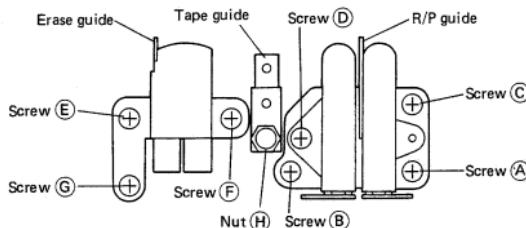

Fig. 4-2
**CAUTION 1:** Upon replacement of the record/repro head and/or the erase head, loosely tighten screws (A) ~ (G) (Fig. 4-2) then turn them one half back, before starting to perform the following steps. In addition, the procedures require the following materials: